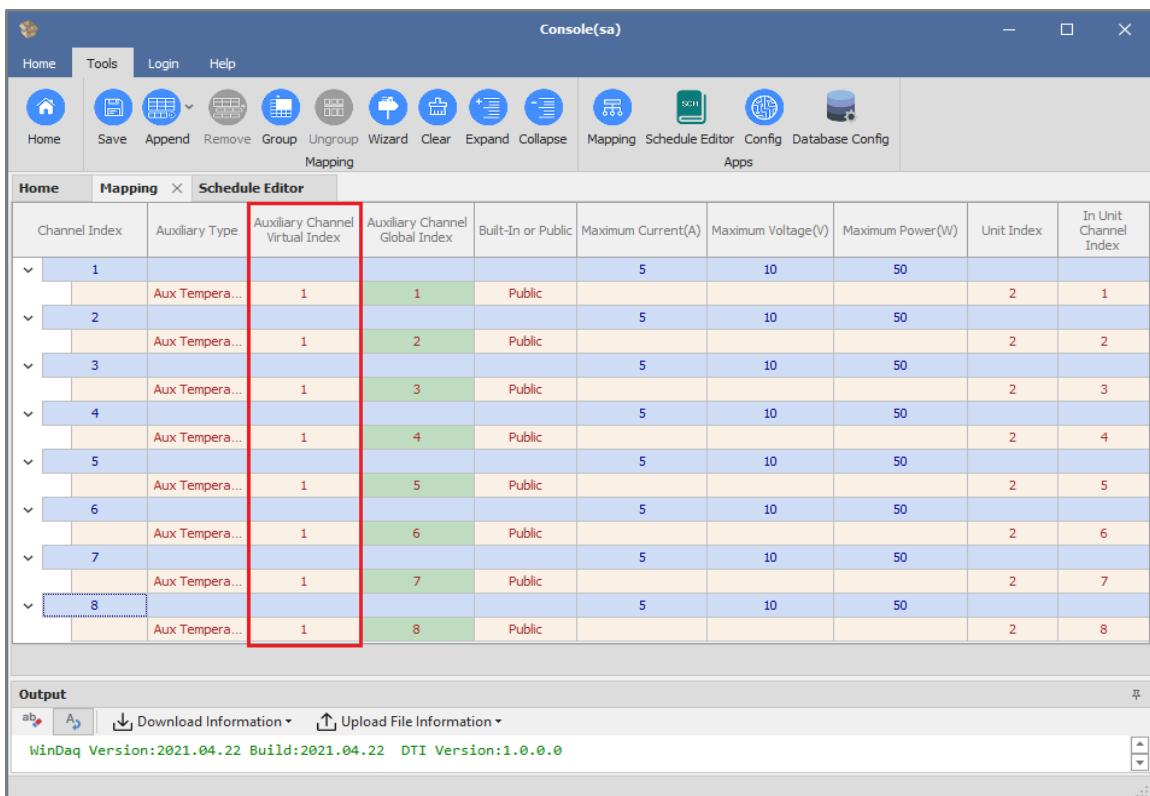

Figure 19-45 Mapping of an IV Channel and a Temperature Chamber
- 1) Map an IV channel to a temperature control chamber (Figure 19-45).